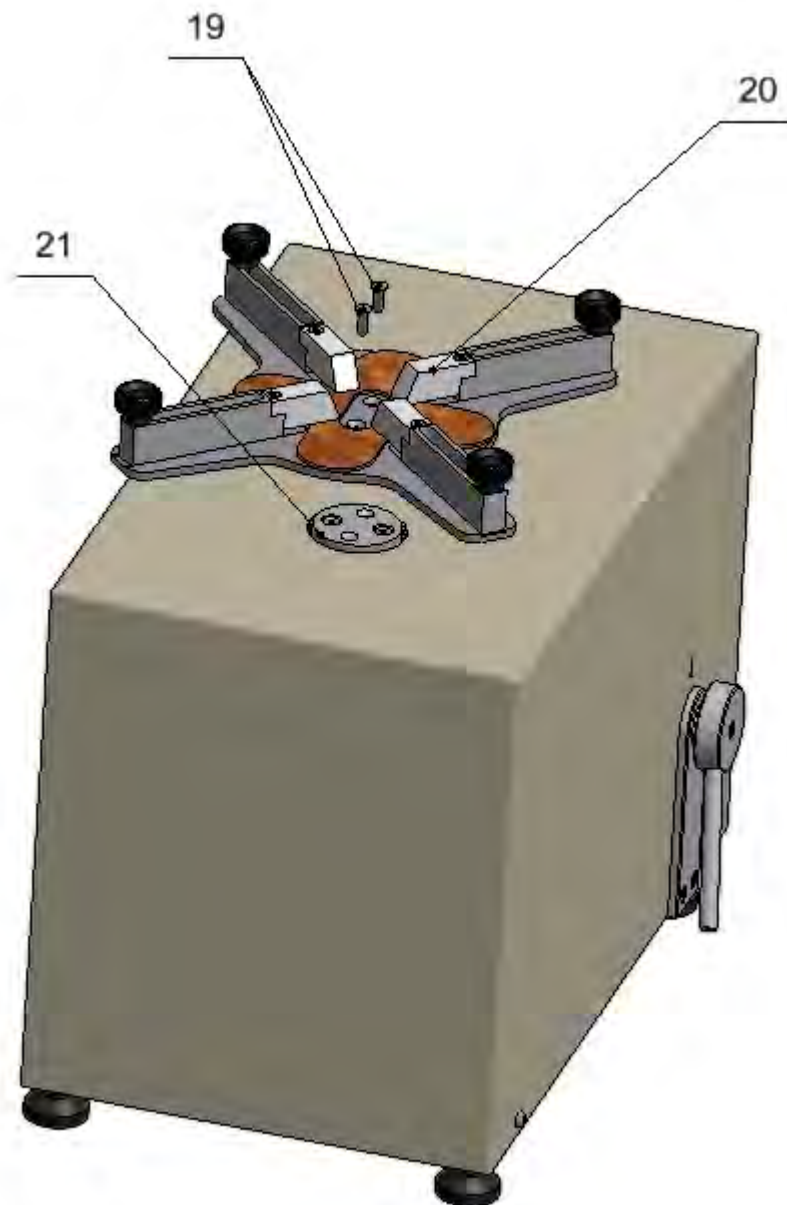

Fig.10
16. Fix weighing pan assembly (20) to a spacer ring (21), using two M5 screws (19). (Fig.10)